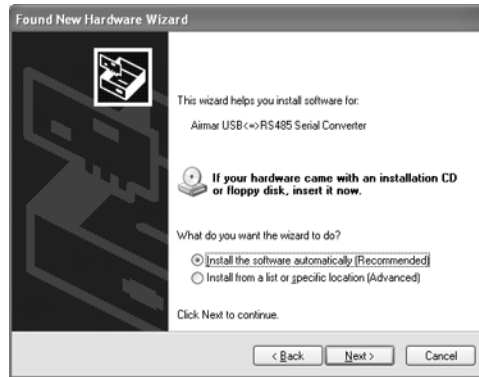

Figure 27. Found New Hardware Wizard window continued
9. Another Found New Hardware Wizard window will appear (see Figure 27). Click “Install the software automatically”.